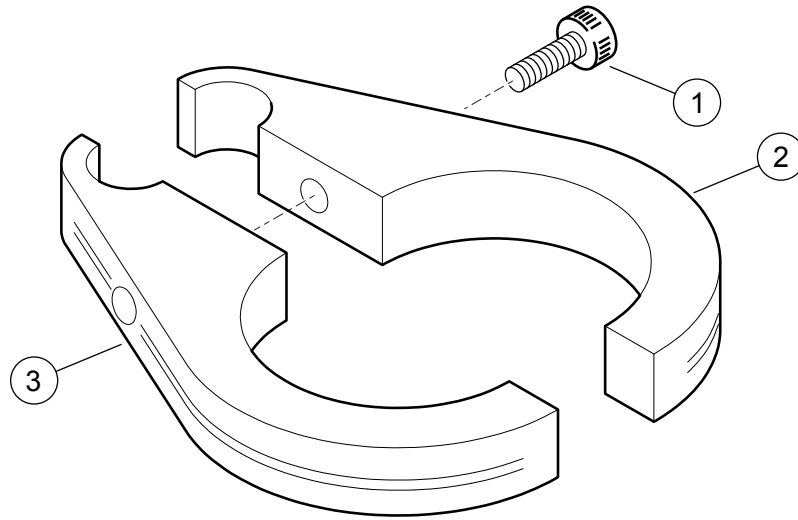

Figure 2. Service Parts: Billet Cable Bracket Kit
See Figure 2 and Table 1.
1. See Figure 2. Apply LOCTITE 243 (blue) to the screw (1).